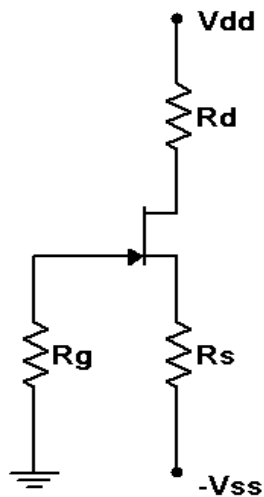

Figure 3
6. Consider the circuit of Figure 3 using $V_{dd} = 15$ volts, $V_{ss} = -3$ volts, $R_d = R_s = 4.7 \text{ k}\Omega$ and $R_g = 330 \text{ k}\Omega$. A reasonable approximation for V_{GS} in this circuit is -2 volts DC. Based on this, calculate and record the expected voltages for JFET 1 in Table 4. Also record the expected drain current in Table 5.
7. Build the circuit of Figure 3 using $V_{dd} = 15$ volts, $V_{ss} = -3$ volts, $R_d = R_s = 4.7 \text{ k}\Omega$ and $R_g = 330 \text{ k}\Omega$. Measure and record the voltages for JFET 1 in Table 4. Based on V_D , compute and record the experimental drain current in Table 4. Also find and record the drain current deviation.
3. In general, identify two ways of decreasing the drain voltage in the circuit of Figure 3.